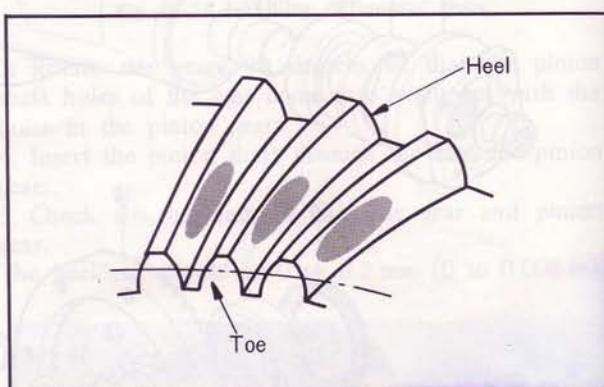

Fig. 9-26 Correct tooth contact
6. Check the tooth contact of the ring gear and pinion by applying a thin coat of red lead on both sides of about six or eight of ring gear teeth and rotating the ring gear several times to and fro. If the pinion position and backlash have been correctly set, the contact pattern should be as shown in Fig. 9-26.